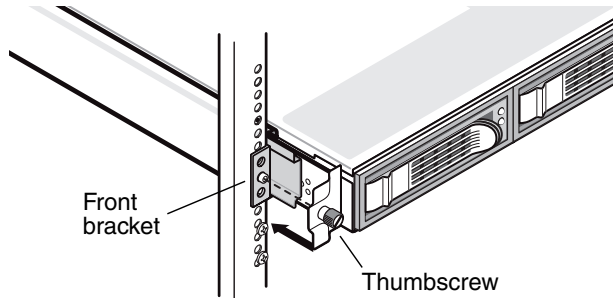
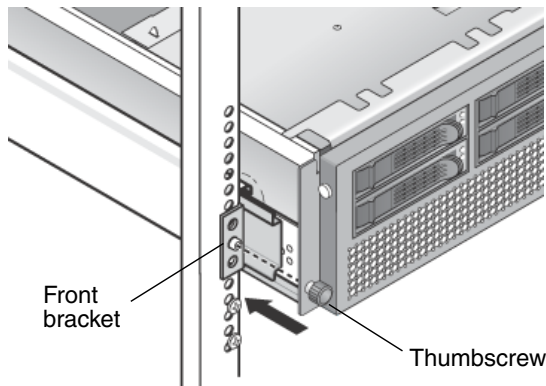

FIGURE 1-6 Securing the Sun Fire V20z Server Into the Rack
FIGURE 1-7 Securing the Sun Fire V40z Server Into the Rack
4. With the server pushed into place in the rack, tighten the captive thumbscrews on the server front by screwing them into the middle hole on the slide-rail assembly front bracket (see FIGURE 1-6 or FIGURE 1-7).